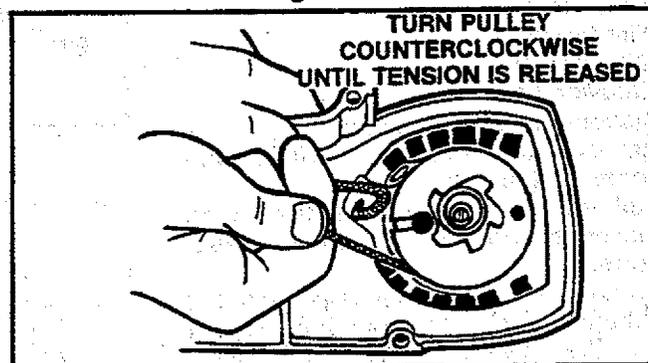

Figure 48
6. If the starter rope is not broken, release the spring tension by pulling about 10 inches of rope from the pulley and catch the rope in the notch as shown. Figure 48